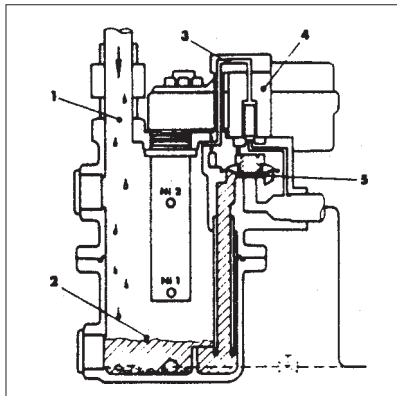

Fig. 3: Condensate collection
Fig. 3 Condensate passes through the inlet opening (1) into the collecting container (2). The diaphragm valve is closed, since the pilot-supply line (3) and the solenoid valve (4) ensure pressure compensation above the valve diaphragm (5). The larger space above the diaphragm results in a high closing force. The valve seat remains tightly closed without leakage loss.